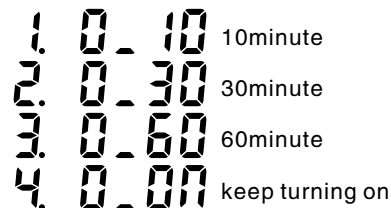

Figure 2-3-2 DC24V time setup
- (1) Please select **7.024V** (output 24V) in the basic function menu.
- (2) As figure 2-3-2 Screen, screen shows the time option of DC24V output.